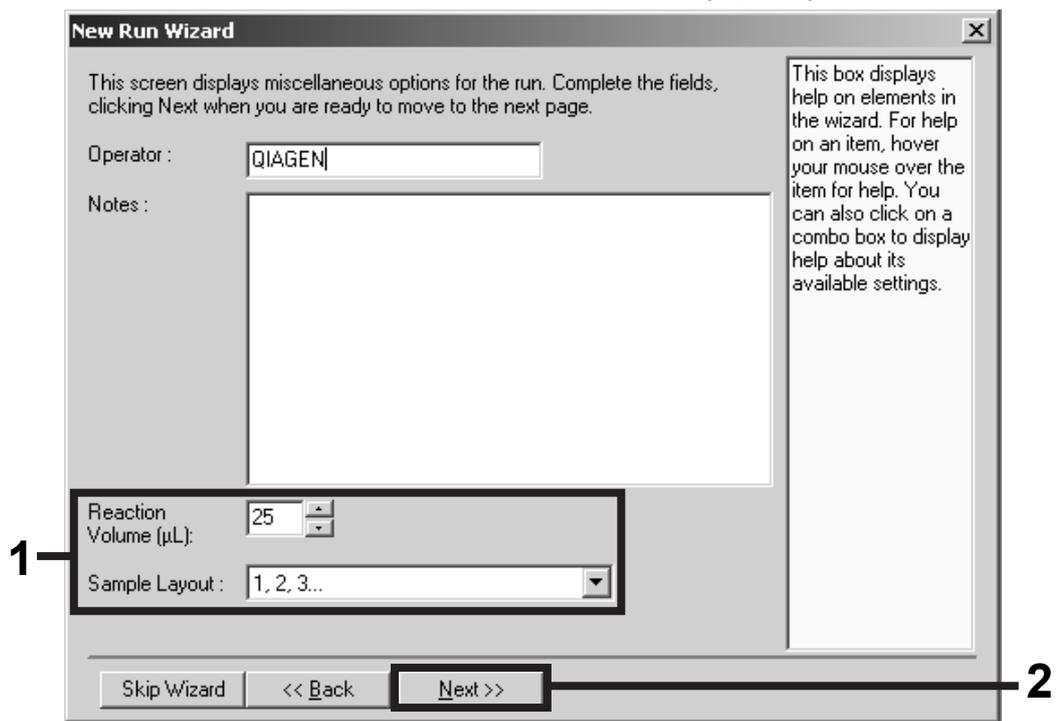

Figure 2. Setting the general assay parameters.
6. Select 25 for the PCR reaction volume and click "Next" (Figure 2).